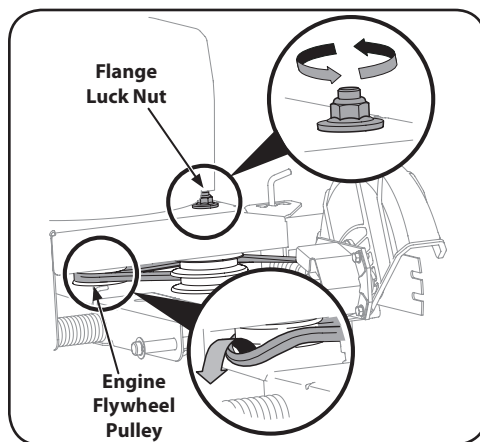

Figure 5-3
NOTE: To aid in reassembly, note the orientation of the drive belt on the two idler pulleys and the engine flywheel pulley prior to performing the following steps. Refer to Figure 5-3.
1. Working in front of the edger, loosen the flange lock nut on top of frame, allowing the idler pulley assembly to pivot slightly out from the frame. See Figure 5-3.
2. With your other hand, carefully reach under the rear of the edger and remove the belt from around the engine flywheel pulley. See Figure 5-3.